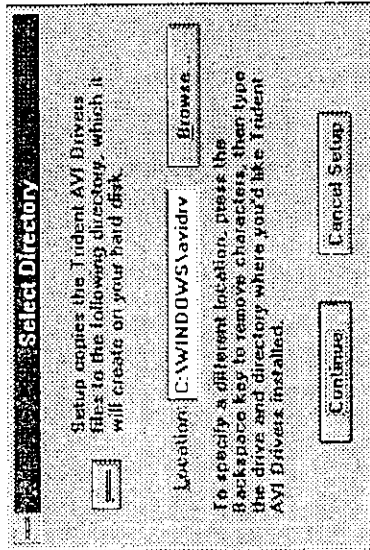

Figure 3-16.
6. The next screen will place Trident AVI Drivers in the directory "C:\WINDOWS\AVIDRV". Change the path only if another directory is desired (see Figure 3-16). Click on "Continue" to complete the installation process of Trident AVI Drivers.